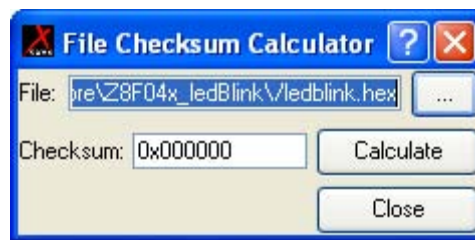

Figure 45. File Checksum Calculator Window
1. From the **Flash** menu, select **File Checksum**. The **File Checksum Calculator** window is displayed (Figure 45).
4. In the **File Checksum Calculator** window (Figure 45), click **Calculate**.